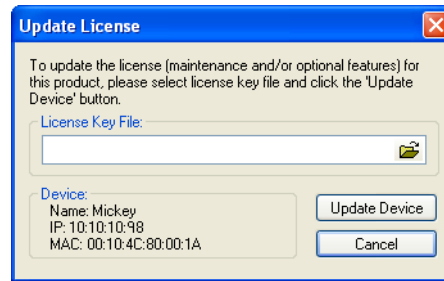

Figure 93 Update License Dialog Box
- Step 2** When the License Information dialog opens, click the **Update** button. The Update License dialog box opens (Figure 93).